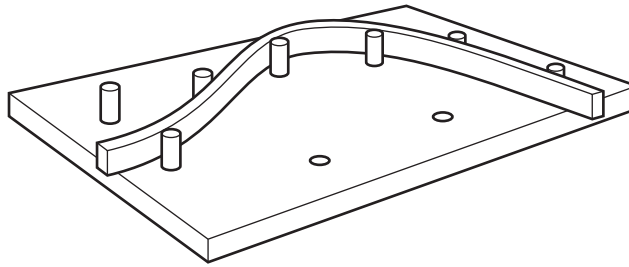

Fig. 3
- 6 Fig. 3 shows a bending jig.